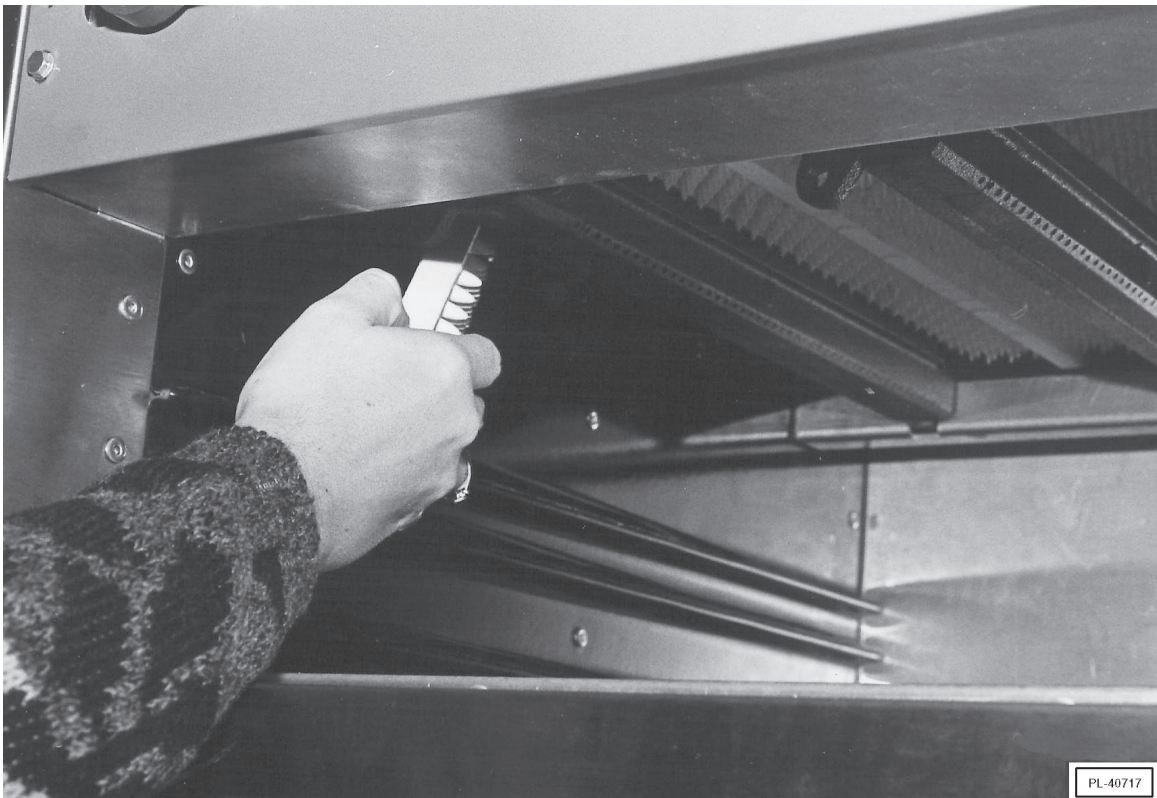

Fig. 3
1. Remove the six $5\frac{1}{4}$ " (133.4 mm) x $2\frac{1}{4}$ " (57 mm) and (6) $5\frac{1}{4}$ " (133.4 mm) x $5\frac{1}{16}$ " (128.6 mm) bricks from the shipping box.
2. Install the six $5\frac{1}{4}$ " (133.4 mm) x $2\frac{1}{4}$ " (57 mm) bricks to the left- and right-hand sides of the burner. To install the bricks, insert them one at a time through the opening in the front of the broiler. Angle the brick sideways so that it will slip between the burner edges. Set the bricks flat in place resting on these edges. Push each brick installed as far to the rear of the burner as possible so that the last brick will install easily (Fig. 3).